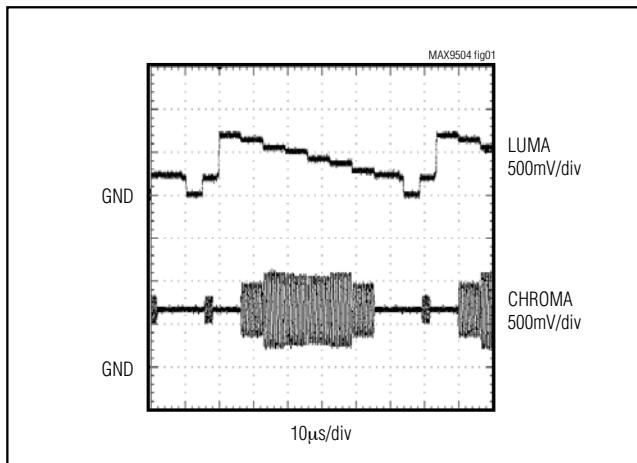

Figure 1. Oscilloscope Trace of Luma and Chroma Signals from Video Current DAC
Video current DACs source current into a resistor connected to ground. The output voltage range for composite video and luma (Y) is usually from ground up to 1V (see Figure 1). Notice that the sync tip is quite close to ground. Standard single-supply amplifiers with rail-to-rail outputs have difficulty amplifying input signals at or near ground because their output stages enter a nonlinear mode of operation when the output is pulled close to ground.
At the output of a video current DAC, the blank level of the chroma signal is usually between 500mV to 650mV. The voltage swing above and below the blank level is approximately $\pm 350\text{mV}$ (see Figure 1). If the blank level is 550mV, then the lowest voltage for the chroma signal is 200mV. For the case of chroma signals, no input level shift is needed because 200mV gained up by two is 400mV, which is well within the linear output range of the MAX9504A or MAX9504B. Since the MAX9504A does not have an input level shift, the MAX9504A should be used with chroma signals. In summary, use the MAX9504B with composite video and luma signals from a DAC, and use the MAX9504A with chroma signals from a DAC.